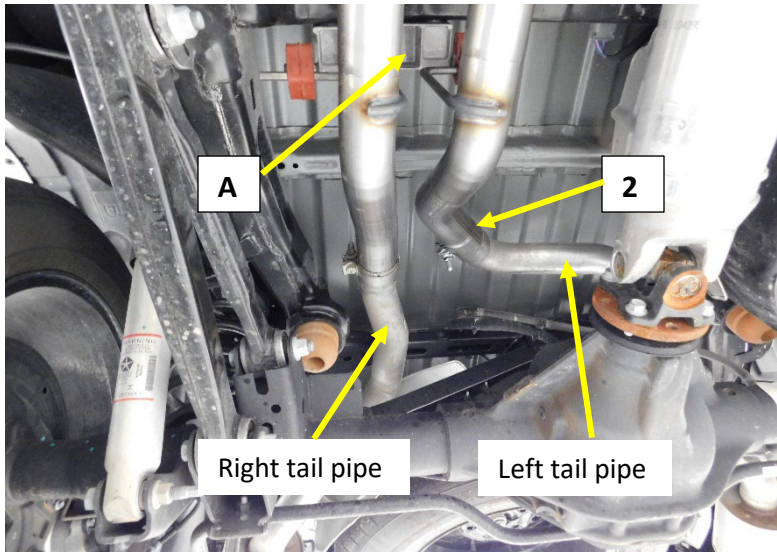
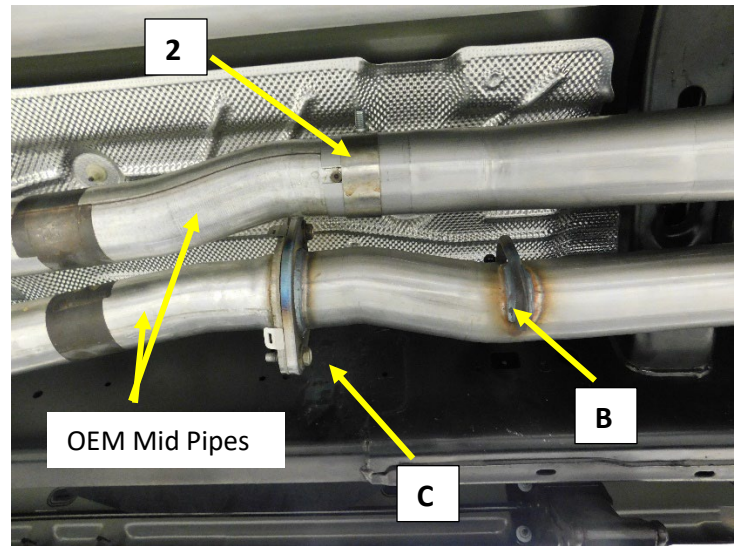

Figure. 4
Figure. 5
1. Apply penetrating oil to the rubber isolator at the 2-bolt flange. **See figure.5 (B)**
1. Install the 2 3/4" band clamp **(2)** on to the 718203 Direct fit left muffler outlet pipes reduced end, the second 2 3/4" band clamp **(2)** installs at the slip joint connection of the left muffler inlet pipe. Position the bolts to the right side and nuts facing down. **Fig.4 / Fig.5**
2. Install the Muffler hanger bracket **(A)** on to the tail pipe hanger rods. Be sure the bracket is facing the correct way. **Fig. 4**
3. Position the muffler assembly into the vehicle and align the left Muffler outlet pipe to the Left tail pipe. Work the tail pipe into the slip joint. Do not tighten the clamps. **Fig.4**
4. Align the Muffler inlet pipes to the OEM mid pipes. Install the left mid pipe into the left Muffler inlet pipe slip joint with the alignment pin in the slot. **Fig.5**
5. Align the Muffler inlet pipe hanger rod **(B)** to the isolator on the frame at the flange. Install the hanger rod into the isolator. **Fig.5**
6. Align the Muffler rear hanger bracket assembly (A) to the studs on the frame and install the (2x) 13mm nuts. **Fig.4**
7. Install the OEM bolts at the flange connection (C) between the right Muffler Inlet Pipe and the OEM mid pipe. Be sure the metal gasket is in place.